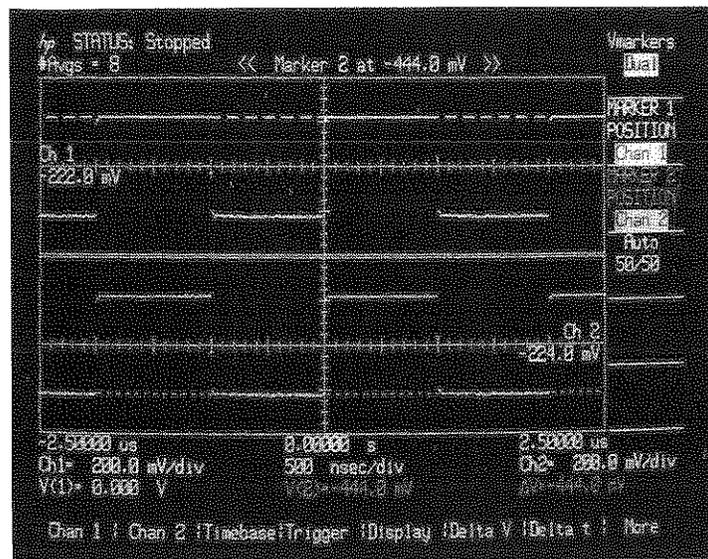

Figure 7-6. Delta Vmarkers on Split Screen.
*$\Delta V$  in the factors area lists the voltage difference between the two markers (see figure 7-6).*